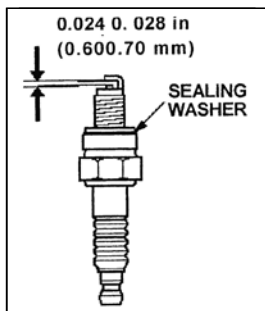

FIG. 15
10.3 AIR CLEANER SERVICE – FIGS. 15 – 17